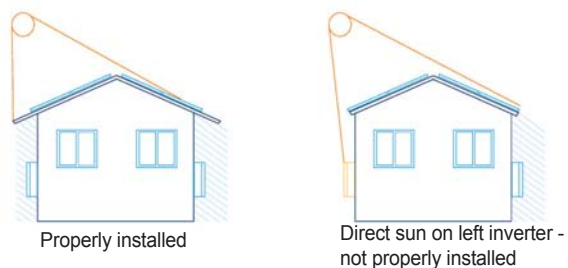

Figure 2
- Choose a location that allows unobstructed airflow around inverter (see Figure 2).